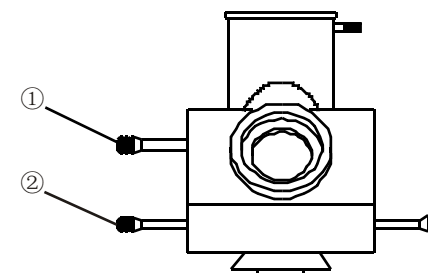

Fig.4
- (1) Push the transmitted light power switch 30 to "I", then the transmitted light power is turned on.
- (2) Adjust the transmitted light control knob 31 and the aperture diaphragm adjusting pole 35. turn the condenser up-down knob 29 to move condenser.
3. Push the observe / photo control lever ① of trinocular to observing position and push aside the analyzer ② by analyzer lever.( Fig.4)